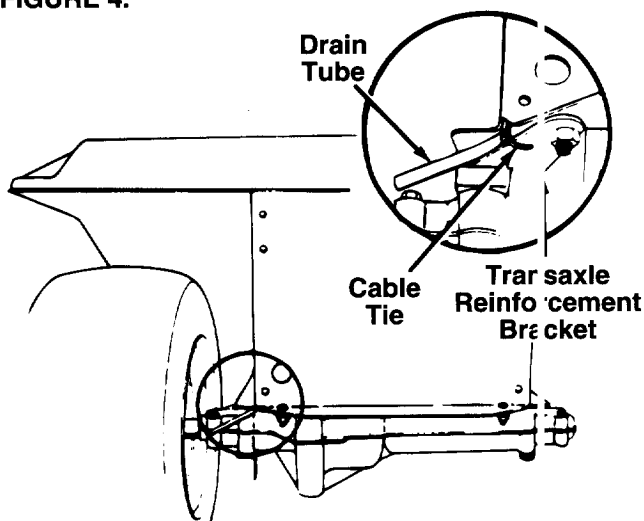

FIGURE 5.
7. Route the drain tube through the opening between the transaxle reinforcement bracket and the frame on the left rear of the unit. Insert the drain tube to the transaxle reinforcement bracket through the cable tie which is attached as shown in figure 5. Be certain drain tube is routed away from the wheel rim.